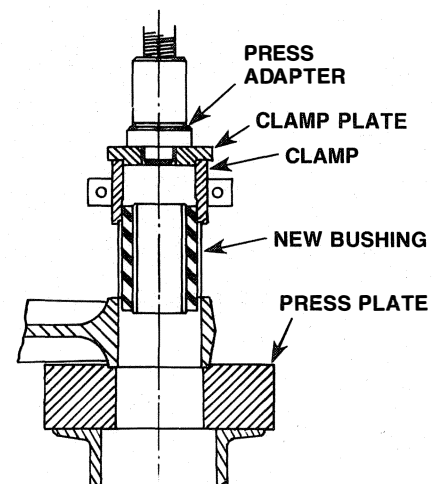

FIGURE 7
- Position the Clamp Plate (Item 9) and the Press Adapter (Item 6) on top of the Clamp (Item 8) as shown in Figure 7.